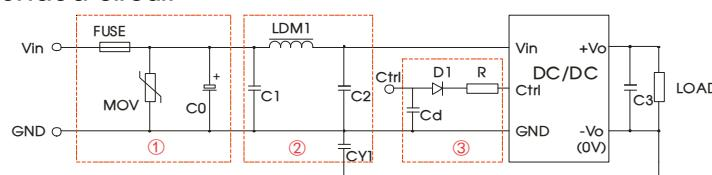

Fig. 3
RE	CISPR32/EN55032 CLASS B (see Fig. 3-② for recommended circuit)
- ① Part ① in Fig. 3 is used for EMS test while part ② is used for EMI filtering; and parts ① and ② may be selected based on needs.
- ② V_C is the voltage of the Ctrl end relative to the GND of the input grounding; V_D is the positive-going conduction pressure drop of D1; I_c is the current flows into the Ctrl end and its value is generally 5-10mA, see Fig. 3-③ for the peripheral circuit of Ctrl end;
- ③ If there is no recommended parameters, no external component is required.